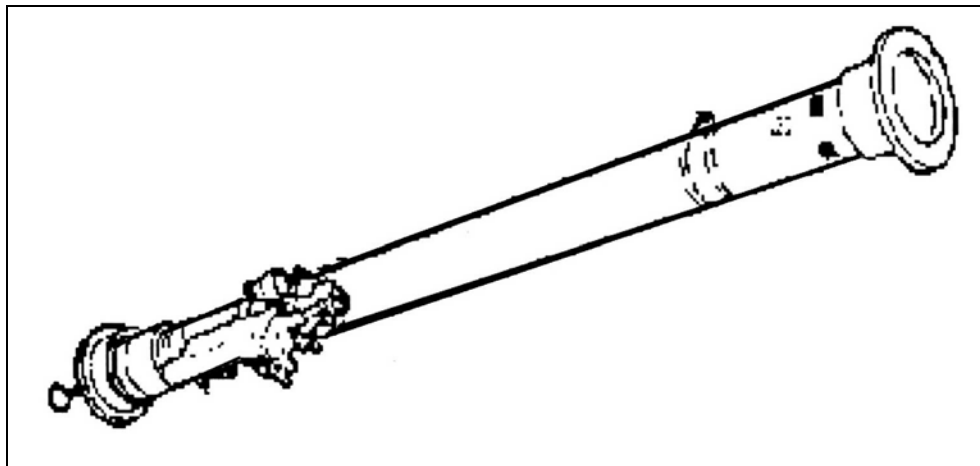

Figure 4-4. Captive flight trainer.
e. **Captive Flight Trainer.** The CFT (Figure 4-4) is a missile simulator used to train operator tracking and engagement skills. The CFT is used in conjunction with the Remotely Piloted Vehicle-Target System (RPVTS) to train engagement procedures with live targets. It consists of a Stinger-reprogrammable microprocessor (RMP), missile guidance assembly, a ballasted launch tube, and a container. The seeker and audio interface is the same as for the tactical missile, with electrical power and coolant provided by normal launcher sources.